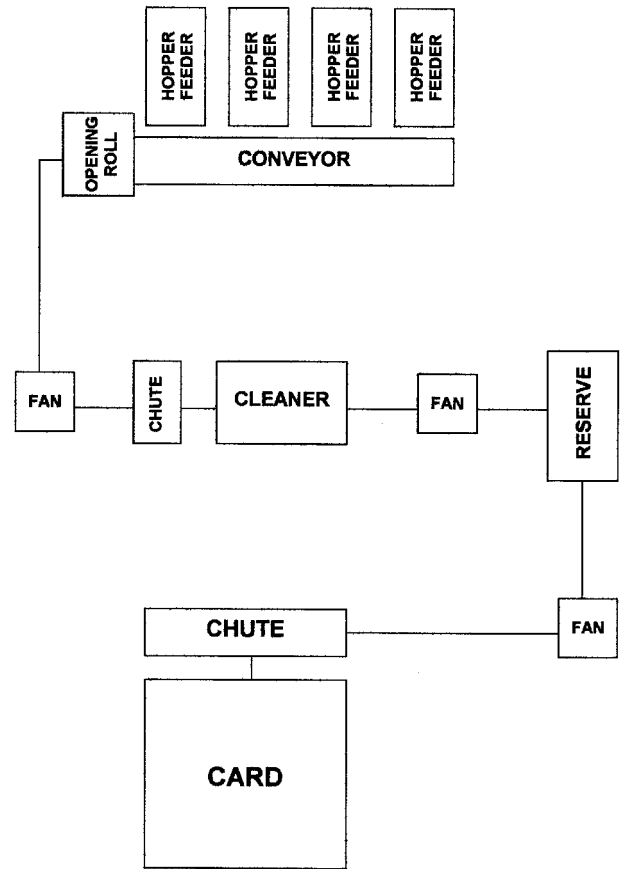

Figure 5. Hoppers/Opening Roll/Cleaner/Card
*Hoppers/Opening Roll/Cleaner/Card.* Raw cotton can be fed to blending machinery, through a cleaning module, and then to the card (Figure 5). A cleaning module may be inserted in place of an opening machine on the existing nonwovens line. The fiber exits the opening roll and travels through the cleaner en route to the card.